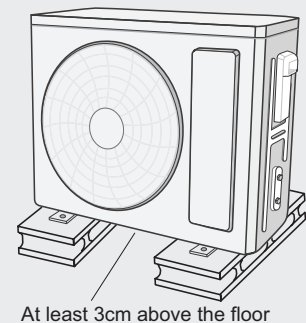

Fig.18
- The outdoor unit should be installed at least 3cm above the floor in order to install drain joint.(As shown in Fig.18)